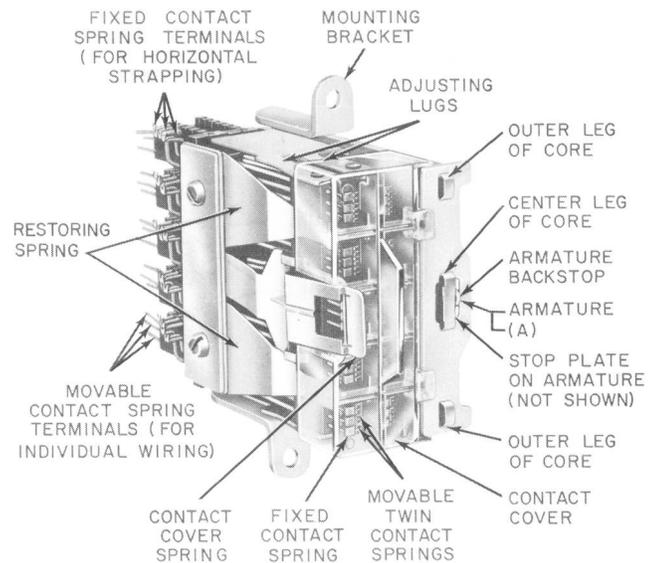

Fig. 1—General View of 286-Type Relay
1.05 The 286-type relay, shown in Fig. 1, has 30 make contacts arranged in two vertical rows of 15. These relays are intended for use instead of 263-type relays in new circuits but are not interchangeable with the 263 type. The terminals of the movable twin contact springs on 286-type relays are arranged for individual wiring, while the terminals of the fixed contact springs are arranged for horizontal strapping.
2.05 Armature Position: Fig. 1(A)